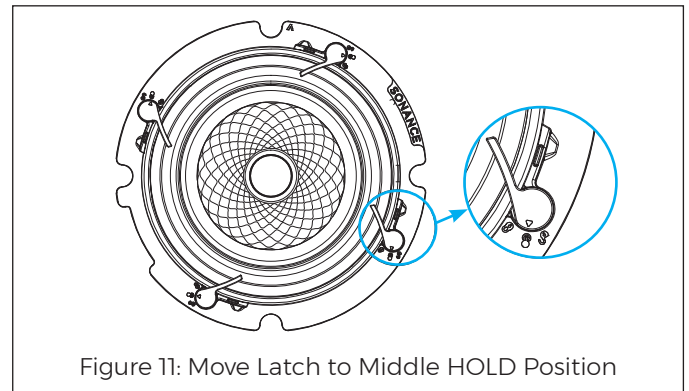

Figure 11: Move Latch to Middle HOLD Position
- Use thumb pressure to rotate the VX speaker module Flex Frame latch into the middle HOLD position (see Figure 11).